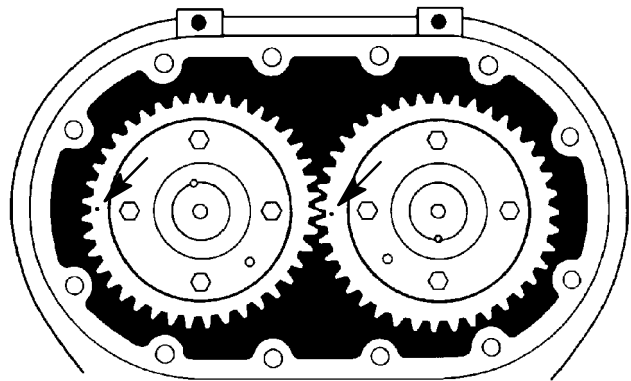

FIGURE 23
**Replacement gears have minimum backlash marks on the outside diameter of the gear face. These marks should be located 180 degrees from each other (see FIGURE 23).**